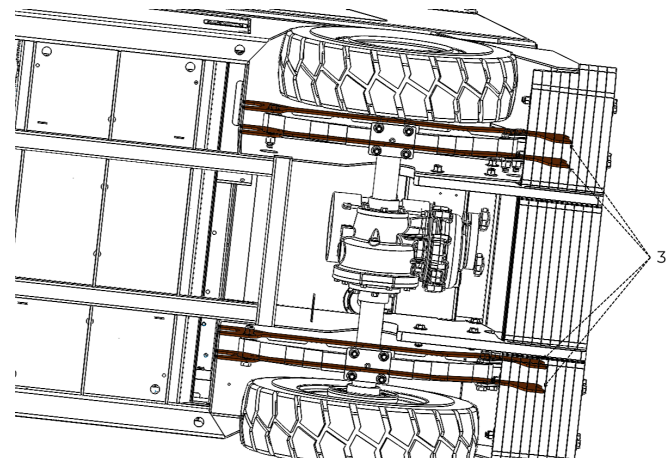

Figure 36. Suspension Mounting Tabs.
- Suspension mounting tabs (3) (see Figure 36).